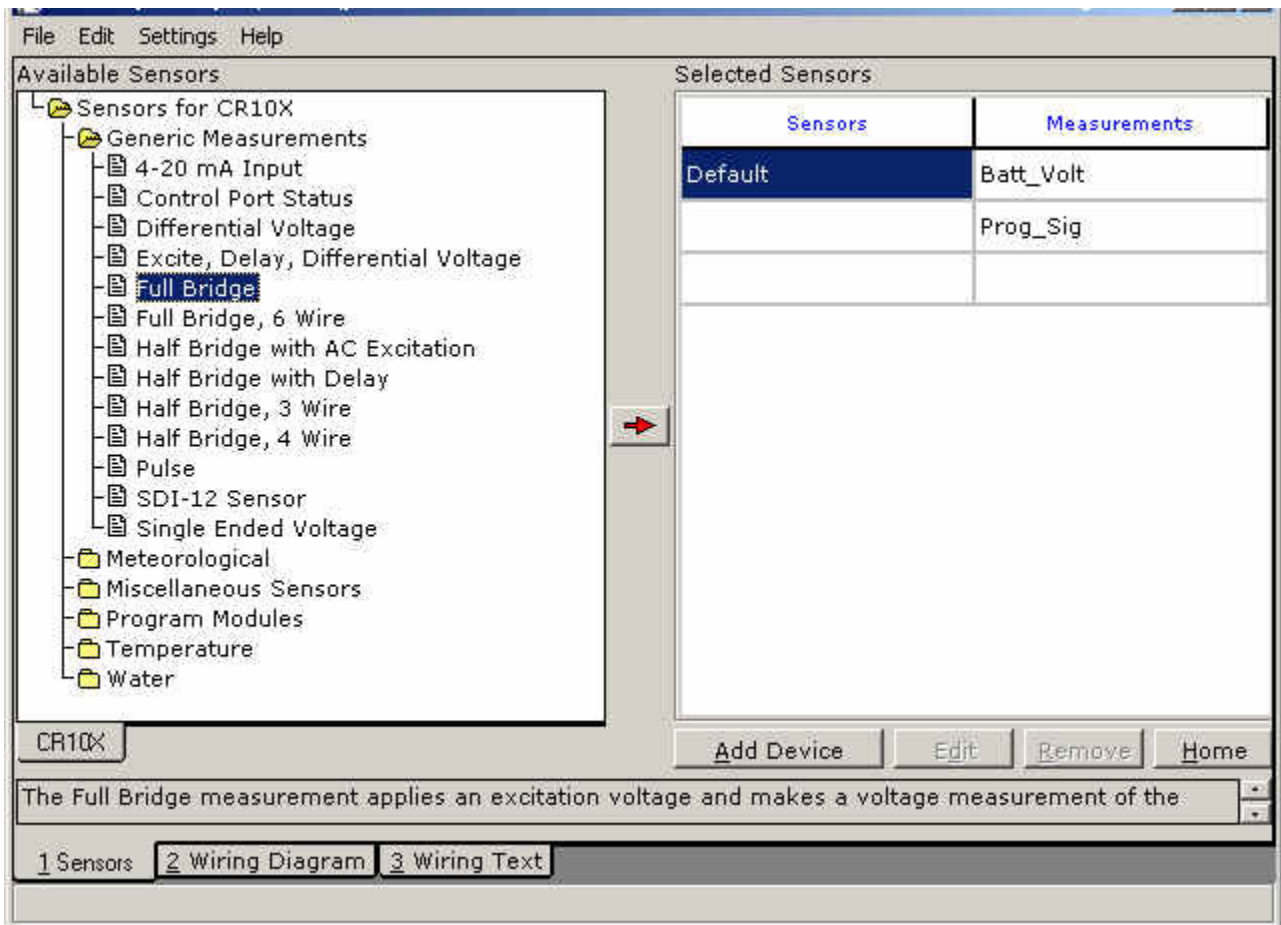
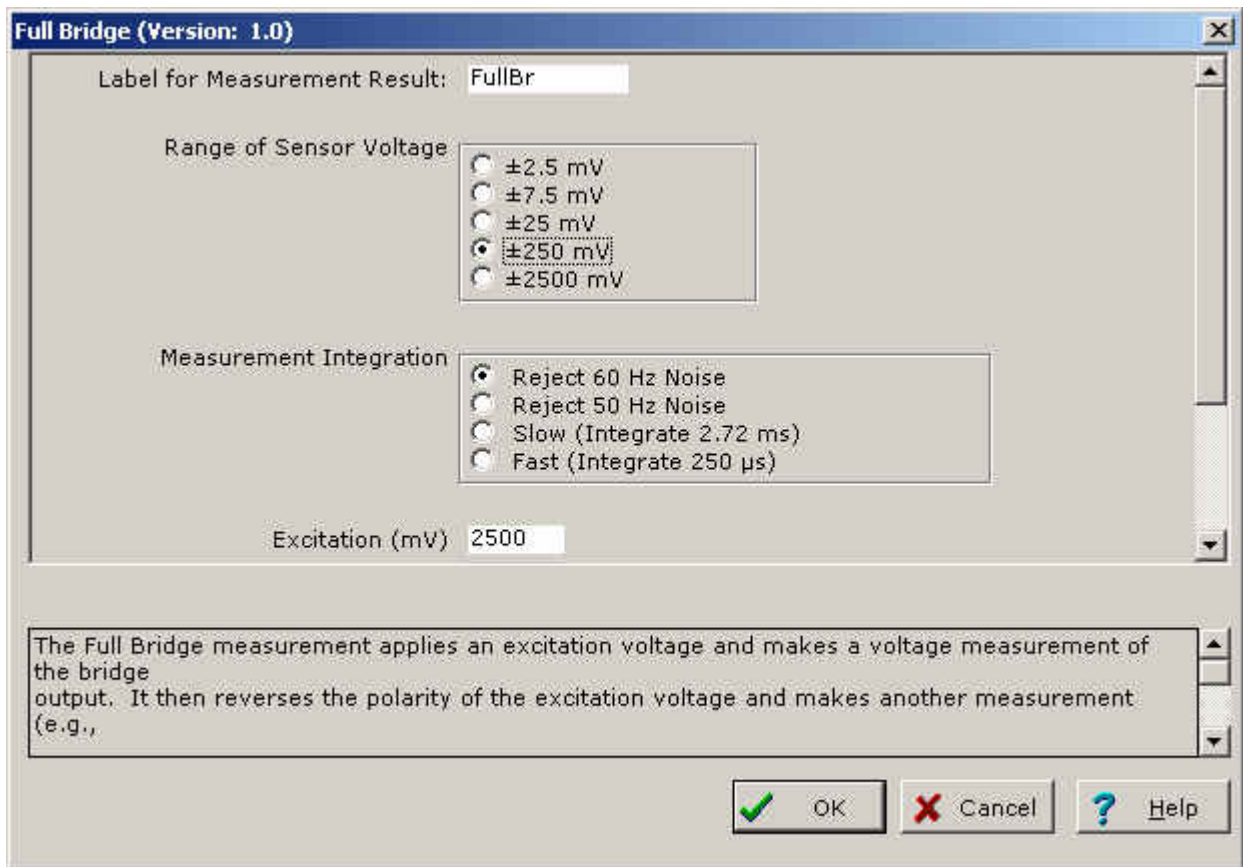
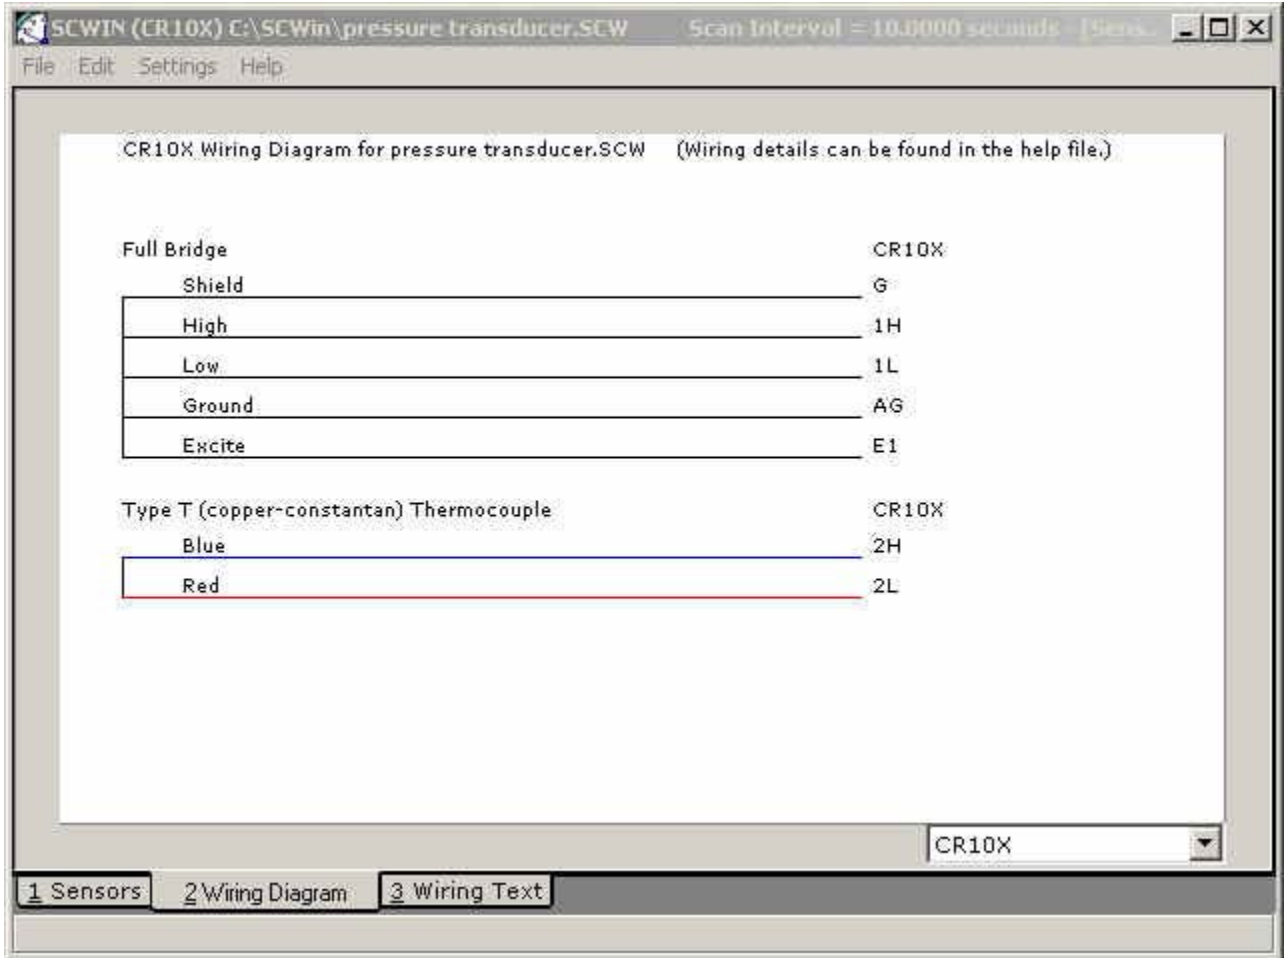
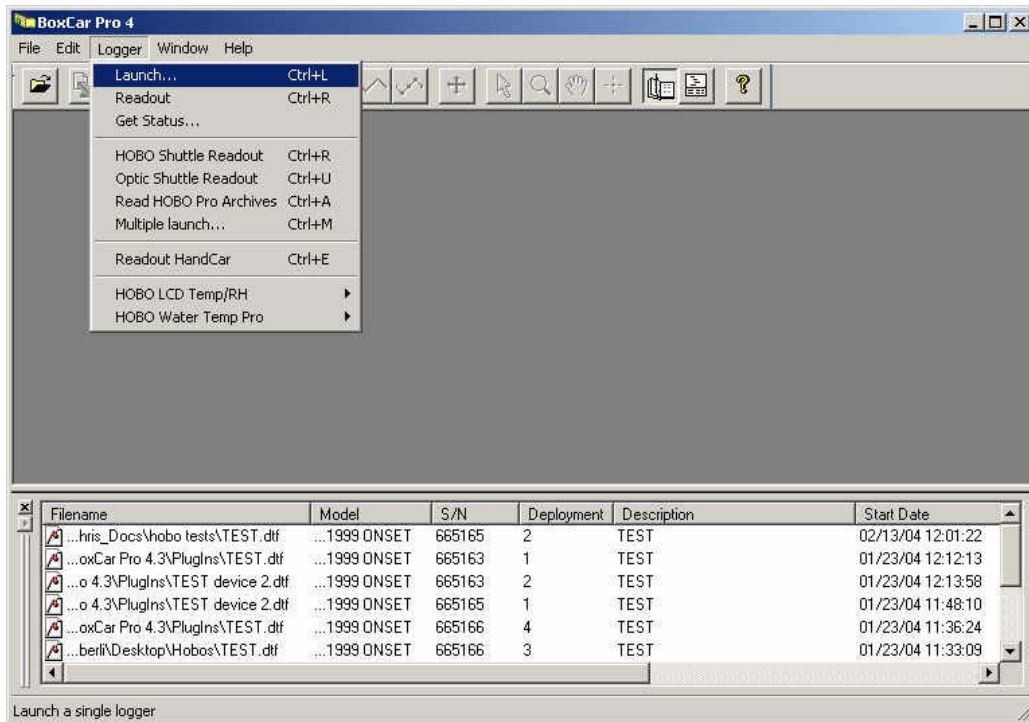

Fig. 10 Defining Transducer
Fig. 11 Setting Range of Sensor Voltage
Fig. 12 Wiring diagram for transducer and thermocouple
Fig. 1 Launching the HOBO
3. From the home page press “Sensors”. Under “Available Programs” open the “Generic Measurements” folder. Select “Full Bridge”, the transducer is of this type of circuit, and press the red arrow, or double click it (See Fig. 10). Set the “Range of Sensor Voltage” to +/- 250 mv (See Fig. 11). Then click OK. The sensor should now be listed under “Selected Sensors” on the left side of the screen. Again under available sensors, go to temperature and select the Type T thermocouple as described previously. After the thermocouple has been selected both sensors should be listed under “Selected Sensors”.
7. Press the “Wiring Diagram” button at the bottom of the window as illustrated in Fig.10 and a window depicting the wiring diagram of the data logger for a pressure transducer and Type T thermocouple appears, see Fig. 12. Connect the blue wire of the thermocouple with the port 2H and the red wire of the thermocouple with the port 2L of the CR10X data logger (you will need a small flathead screw driver to tighten the thermocouple wire down).
Press the “Sensors” button in the window of Fig. 12 and the “home” button in the window of Fig. 10. You should be back now to the main menu (Fig. 1).
8. Activate the BoxCar Pro 4.3 software. There should be a short-cut icon for this program on your desktop, if so, double-clicks to open it. If not you can access it by going through “Programs” and finding it listed as “Onset Applications”. You should come to a page similar to Fig. 1.
9. To launch a program to the logger click on **Logger** from the toolbar and choose **Launch**. See Fig. 1.
13. To view the data that has been collected you need to reconnect the serial cable to link the HOBO and computer. Start from the same screen as you did to launch the HOBO, Fig. 1. This should also be the same screen you were left at after you finished launching the HOBO at the end of step 12. Again click **Logger**, but now choose Readout. The HOBO and computer will connect and a warning will pop up, fig 4. Unplug the serial cable connecting the HOBO and computer, then click **OK**.